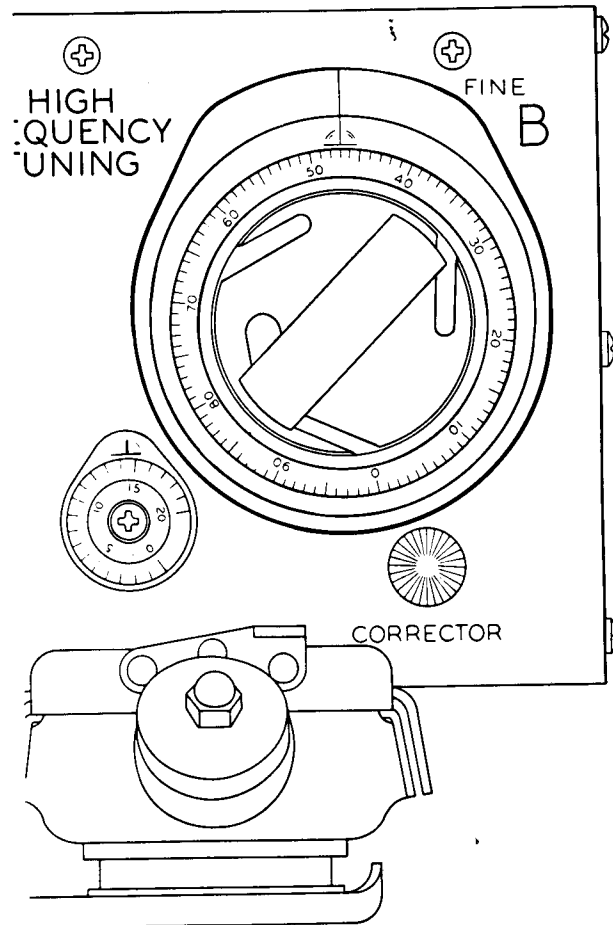

Figure 3-2. High Frequency Tuning Control
c. Knob "B" is the fine tuning control for high frequency operation. It consists of a main tuning knob, calibrated 0-100 which rotates 20 turns for each tuning range, and a small counter dial which counts turns of the large knob. The dial reading is the reading of the counter dial followed by the reading of the large knob. For example, if the counter dial is between 16 and 17, and the large knob is at 43, the dial would be read as 1643. Refer to figure 3-2. page 3-2.
turn counter followed by the dial setting of the large knob. Thus, the dial reading shown in figure 3-2. is 1447.